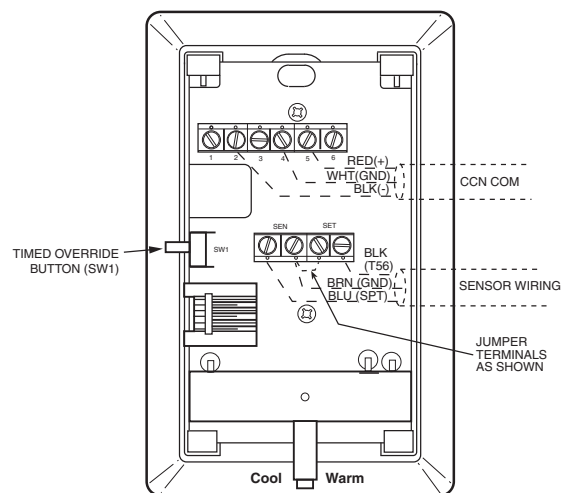

Fig. 40 — Space Temperature Sensor Typical Wiring (33ZCT56SPT)
- Space temperature sensor (33ZCT56SPT) with timed occupancy override button and set point adjustment (see Fig. 40)